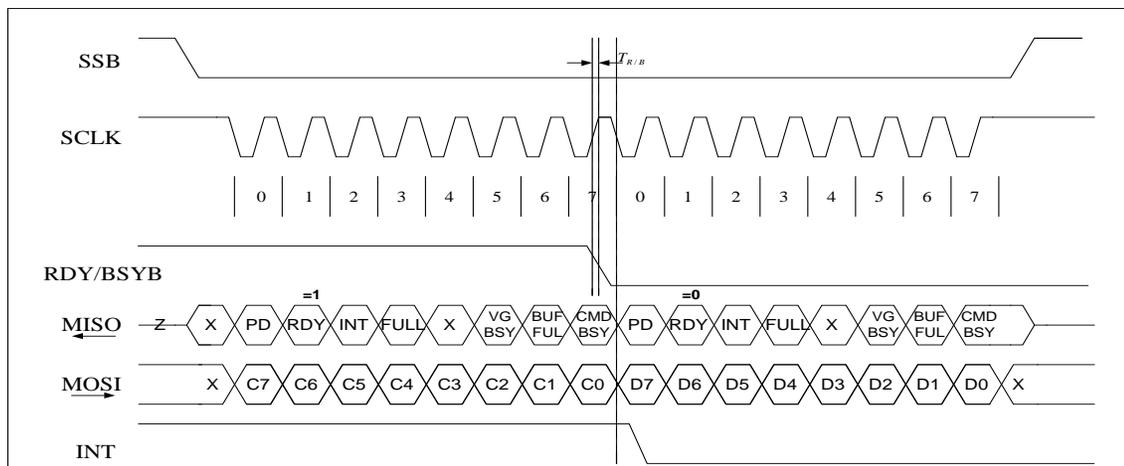

Figure 8-3 RDY/BSYB Ignored for SPI Transactions
For commands that read data from the ISD2361 device, (i.e., DIG_READ, SPI_PCM_READ), MISO is used to read the data. Therefore, the host must monitor the status via the RDY/BSYB pin and take the necessary actions. The INT pin will go low to indicate (1) data overrun/overflow when sending data to the ISD2361; or (2) invalid data from ISD2361. Refer to Figure 8-3 for the timing diagram in which RDY/BSYB is ignored.